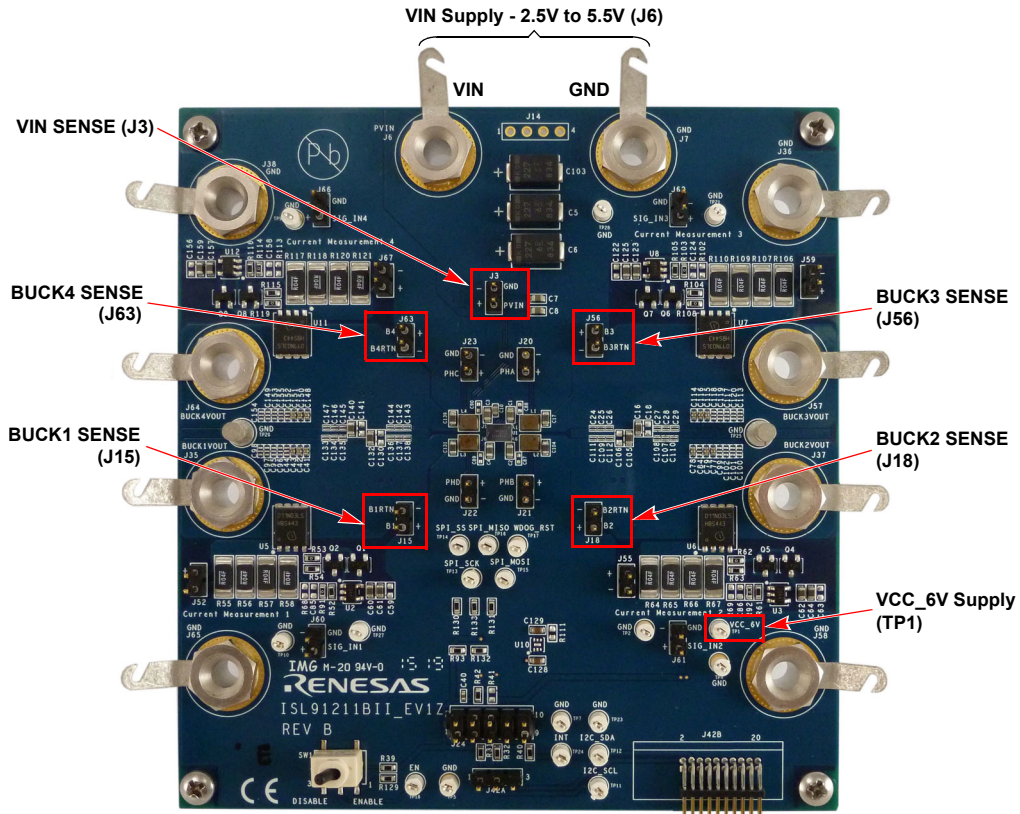

Figure 11. ISL91211BII-EV1Z Efficiency Measurement Connections
The ISL91211BII-EV1Z evaluation board is shown in Figure 11 on page 12. Table 1 lists the key test points and jumpers on the evaluation board. The internal registers of the ISL91211B can be accessed by the I²C/SPI through the on-board header J24 (SPI) and J42 (I²C).
5. To determine efficiency, measure input and output voltages at the Kelvin sense test points (S+ and S-), which are located at J3 (VIN SENSE) and J15 (BUCK1 SENSE), J18 (BUCK2 SENSE), J56 (BUCK3 SENSE), or J63 (BUCK4 SENSE) headers. Measure the input and output currents from the VIN power supply and the electronic load. Calculate efficiency based on these measurements. For detailed setup information, see Figure 11 on page 12.